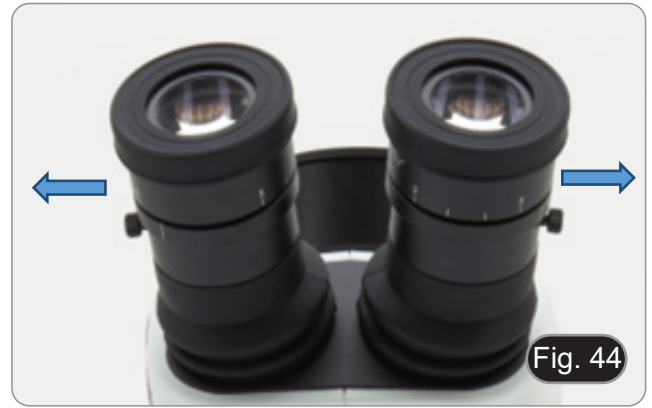

Fig. 43
2. Insert the ring of the photo port ② making sure to leave the fixing screw of the photo adapter ③ facing right. (Fig. 43)